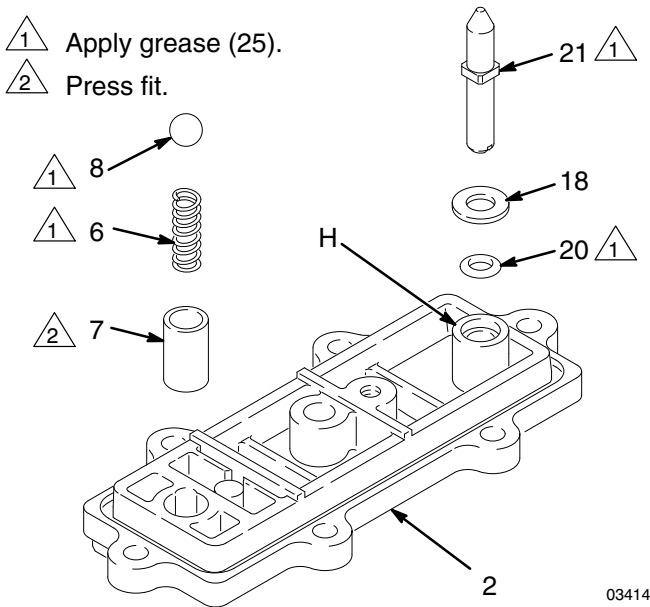

Fig. 13
1. If the detent collar (7) was removed, carefully install a new collar in a new cover (2). Using a rubber mallet, carefully press fit the detent collar (7) into the cover (2). See Fig. 13.
2. Grease the detent spring (6) and place it in the collar (7). Grease the ball (8) and set it on the spring.
3. Grease the o-ring (20) and install it in the hole (H) in the cover (2). See Fig. 13. Slide the washer (18) onto the blunt end of the reset shaft (21). Insert the shaft through the cover (2) until it seats.